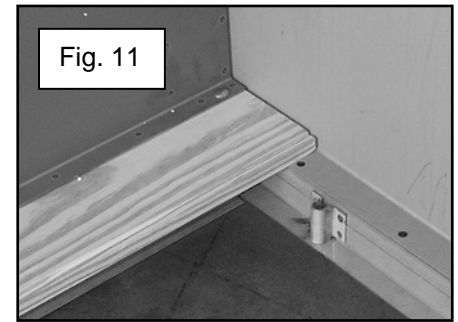

Fig. 11
12. Attach the front s-shaped cross sill to the first 5/16" carriage bolt from the front of the bed on each bed side. The holes in the front panel lower lip and the s-shaped cross sill should line up to this position on the bed side. The front bed panel lower lip should be on top of the sill. The u-shaped brackets should be toward the rear of the bed. See figure 11. Install lock washers and nuts hand tight.